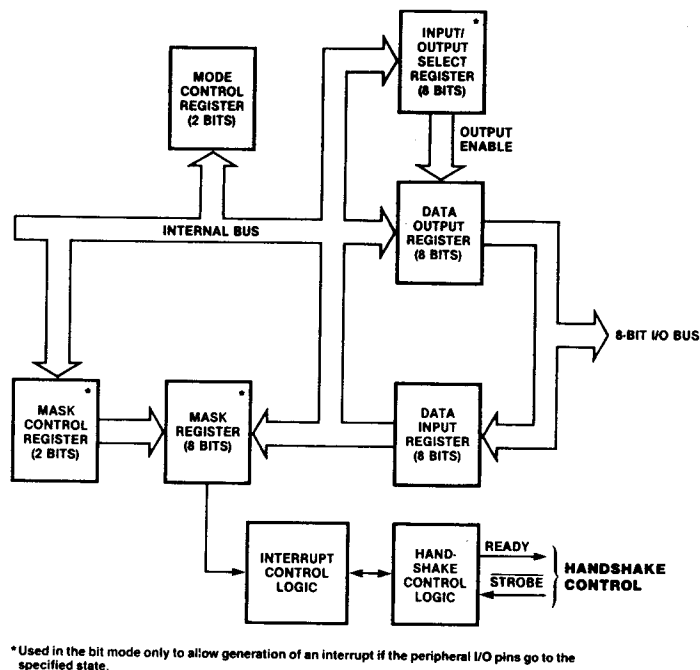

Figure 5. Typical Port I/O Block Diagram
**Port Logic.** Each port contains separate input and output registers, handshake control logic, and the control registers shown in Figure 5. All data transfers between the peripheral unit and the CPU use the data input and output registers. The handshake logic associated with each port controls the data transfers through the input and the output registers. The mode control register (two bits) selects one of the four programmable operating modes.